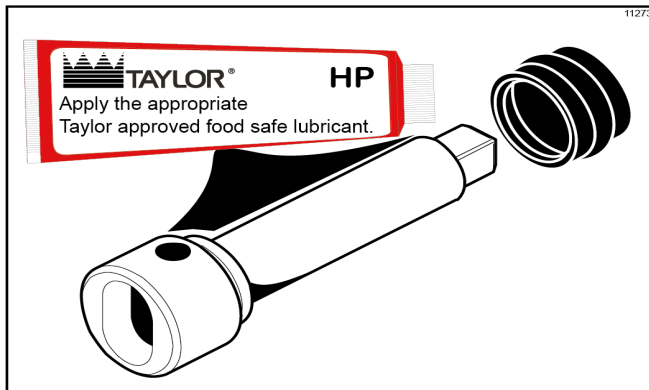

Figure-110
1. Before installing the shake beater driveshaft, lubricate the groove on the beater driveshaft. Slide the beater driveshaft boot seal over the small end of the beater driveshaft and engage into the groove on the shaft. Heavily lubricate the inside portion of the boot seal, and also lubricate the flat end of the boot seal that comes in contact with the rear shell bearing. Apply an even coat of lubricant to the shaft. **Do not** lubricate the square end. (See Figure-110.)